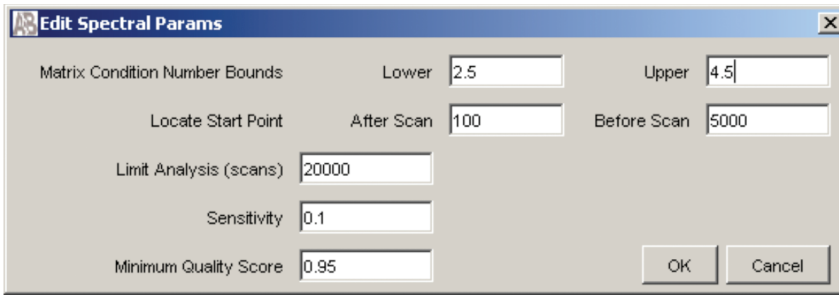

Figure 5. When setting up a spectral calibration file for SNaPshot kit chemistry, the parameters in the Edit Spectral Params window may need to be adjusted.
4. Select Edit Parameter at the bottom of the Protocol Editor window, and the Edit Spectral Params window will appear (Figure 5). The Matrix Condition Number Bound can be set to 2.5 (minimum) and 4.5 (maximum)*. The Minimum Quality Score should not be lower than 0.9. A minimum quality score of 0.95 is usual.